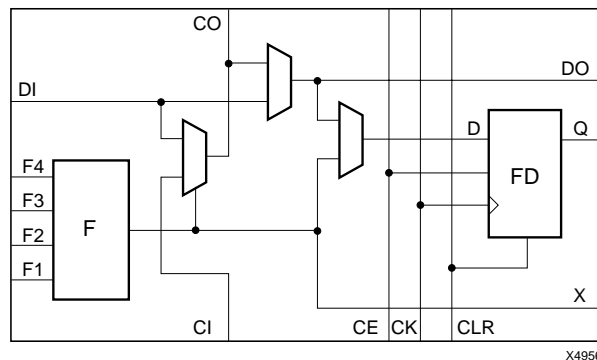

Figure 3: XC5200 Logic Cell (Four LCs per CLB)
The basic logic element in each VersaBlock structure is the Logic Cell, shown in Figure 3. Each LC contains a 4-input function generator (F), a storage device (FD), and control logic. There are five independent inputs and three outputs to each LC. The independence of the inputs and outputs allows the software to maximize the resource utilization within each LC. Each Logic Cell also contains a direct feedthrough path that does not sacrifice the use of either the function generator or the register; this feature is a first for FPGAs. The storage device is configurable as either a D flip-flop or a latch. The control logic consists of carry logic for fast implementation of arithmetic functions, which can also be configured as a cascade chain allowing decode of very wide input functions.